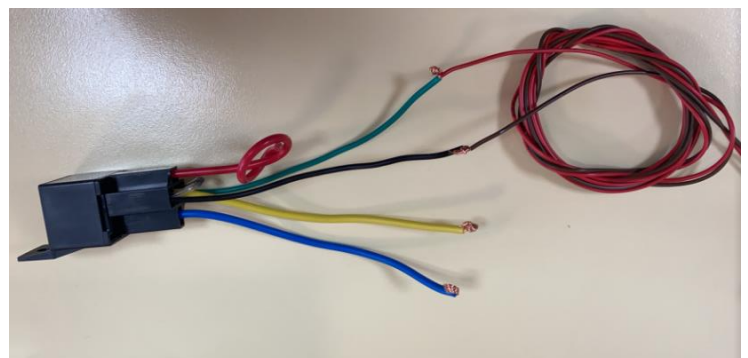

Figure 7 – An example of finding out supply voltage of the coil when selecting a relay and installing a relay in a connector
**5)** Select a relay with an appropriate coil supply voltage (12V / 24V) and install it in the connector (see figure 7).